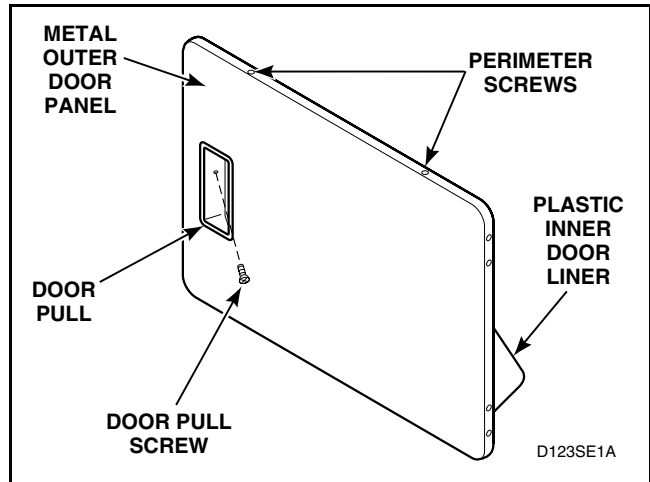

Figure 28
- Remove screw from door pull and the remaining 11 screws around the door perimeter. Refer to *Figure 28*. Set hinges aside at this time.
- Remove plastic inner door liner (with the door strike attached) from the metal door panel. Refer to *Figure 28*.